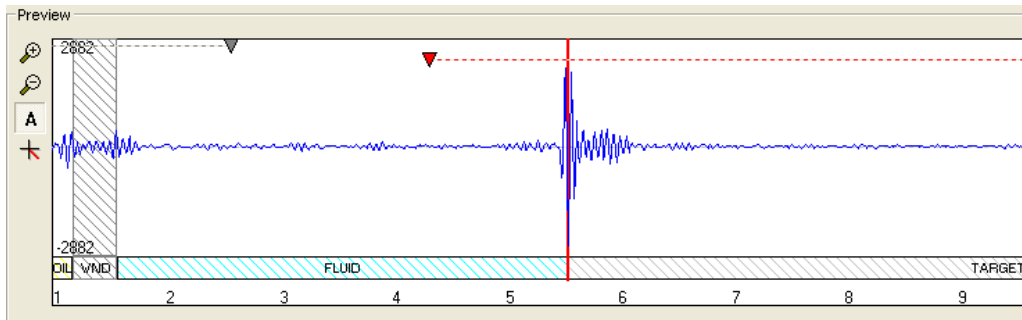

Figure 3-13 Start gate set in manual mode
- **Manual:** Manual adjustment of the Echo Gate start time is useful to exclude noise with amplitudes higher than the formation signal (e.g. exclude the reflection from the inside of a PVC casing) – (Figure 3-13).